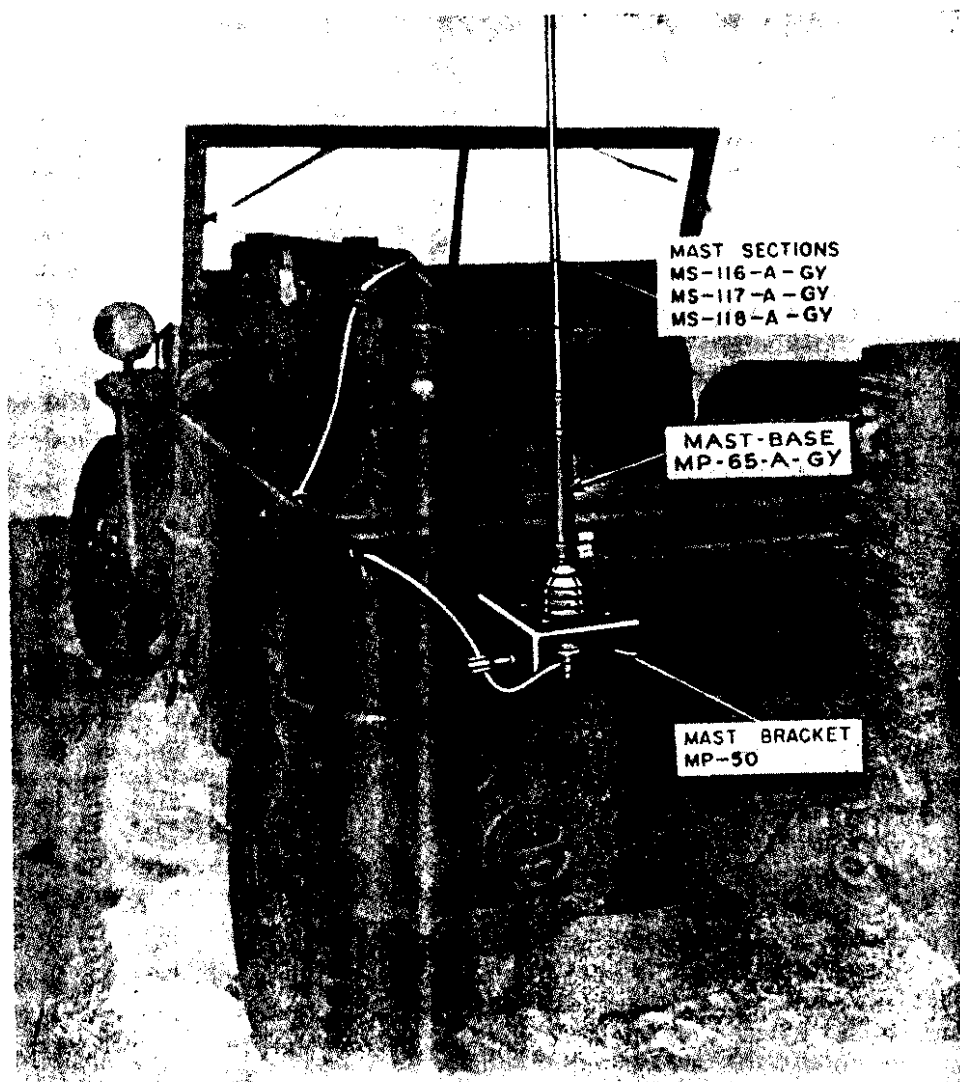

Figure 49. Typical installation of vehicular antenna of radio set ANIGRC-9-GY.
a. The vehicular antenna consists of Mast Base MP-65-A-GY and five mast sections (three Mast Sections MS-116-A-GY, one Mast Section MS-117-A-GY, and one Mast Section MS-118-A-GY). Secure the antenna to the vehicle by means of a Mast Bracket MP-50 (Signal Corps stock No. 2A2090-50) or other appropriate brackets (fig. 49).